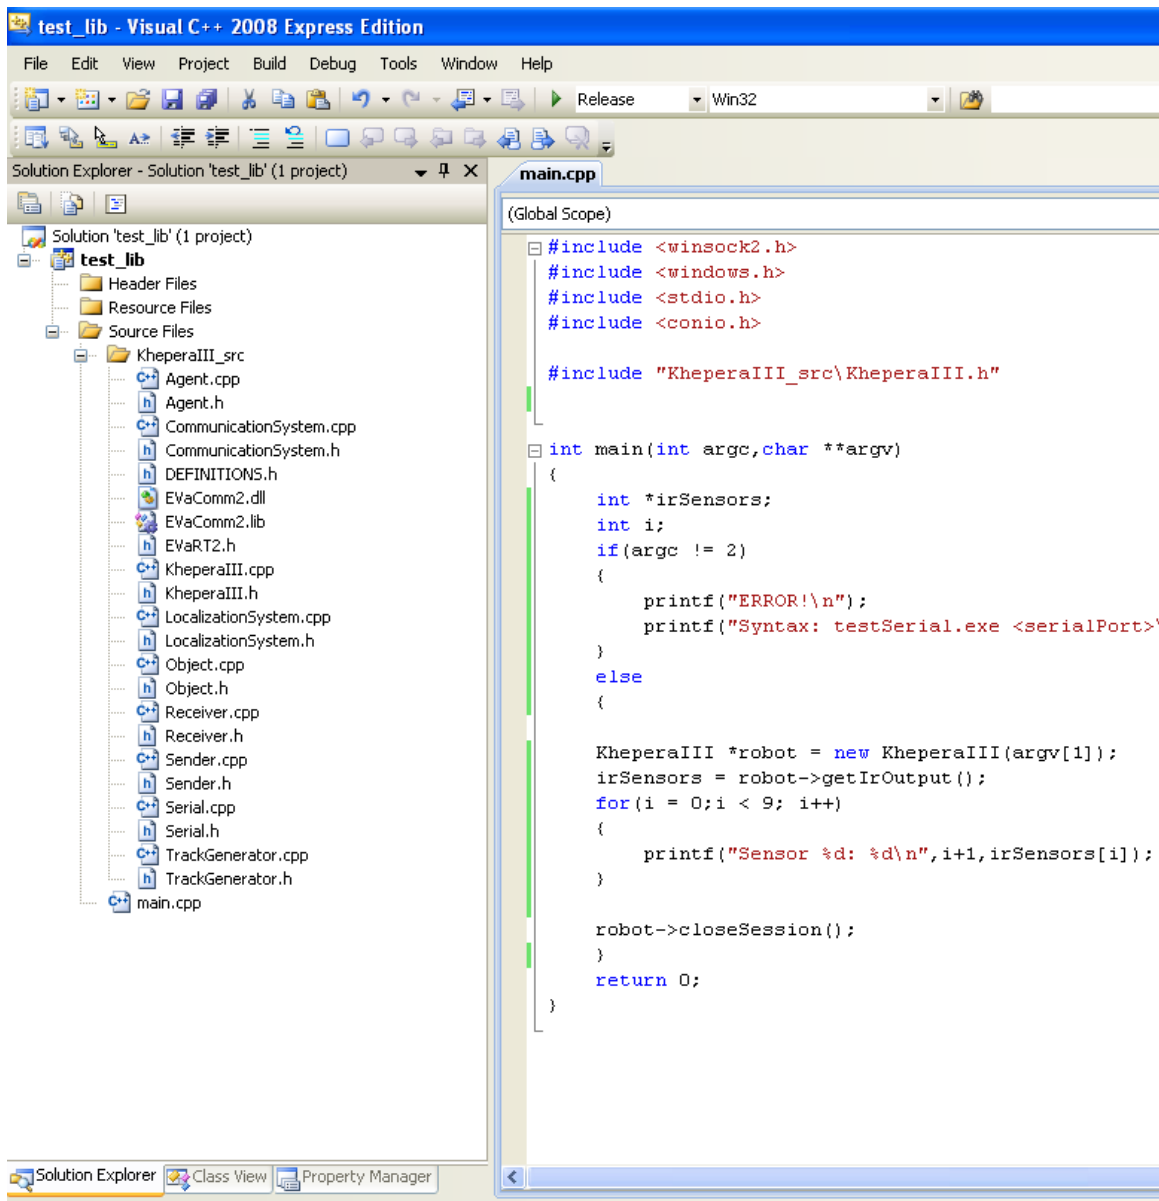

Figure 5: Visual c++ project tree.
- Add to the created filter **ALL** the files inside **KheperaIII_src** folder, as shown in figure 5. If a pop-up asks to create a custom rule to build..., click **NO**.